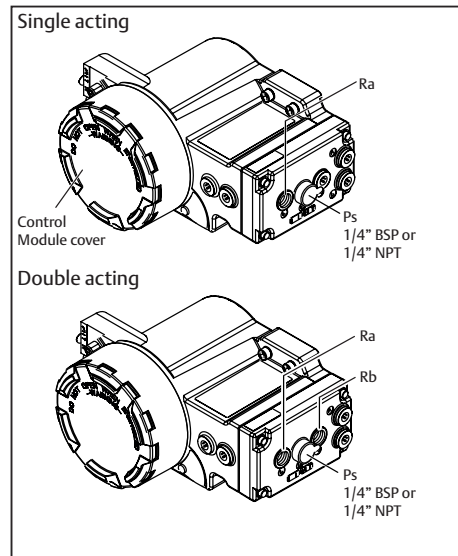

Fig. 3.1: Pneumatic connections
- 6 The exhaust ports Ra and Rb on the module (see figure 3.1) are shipped from the factory with transport protection.